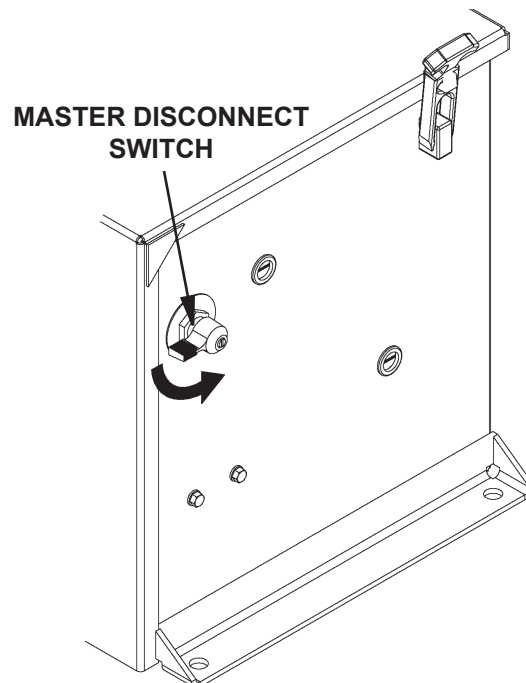

FIG. 4-2
2. Rotate master disconnect switch counter-clockwise to shut off power to pump box (**FIG. 4-2**).